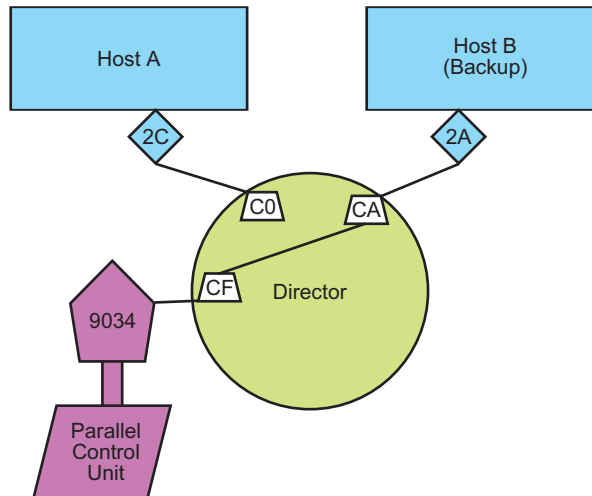

Figure 53. Two Hosts with Access to an ESCON Converter (Backup Host B)
3. Establish a dedicated connection for backup host B between logical port addresses CA and CF using the Director Console application or SA OS/390. The dedicated connection is shown in Figure 53.